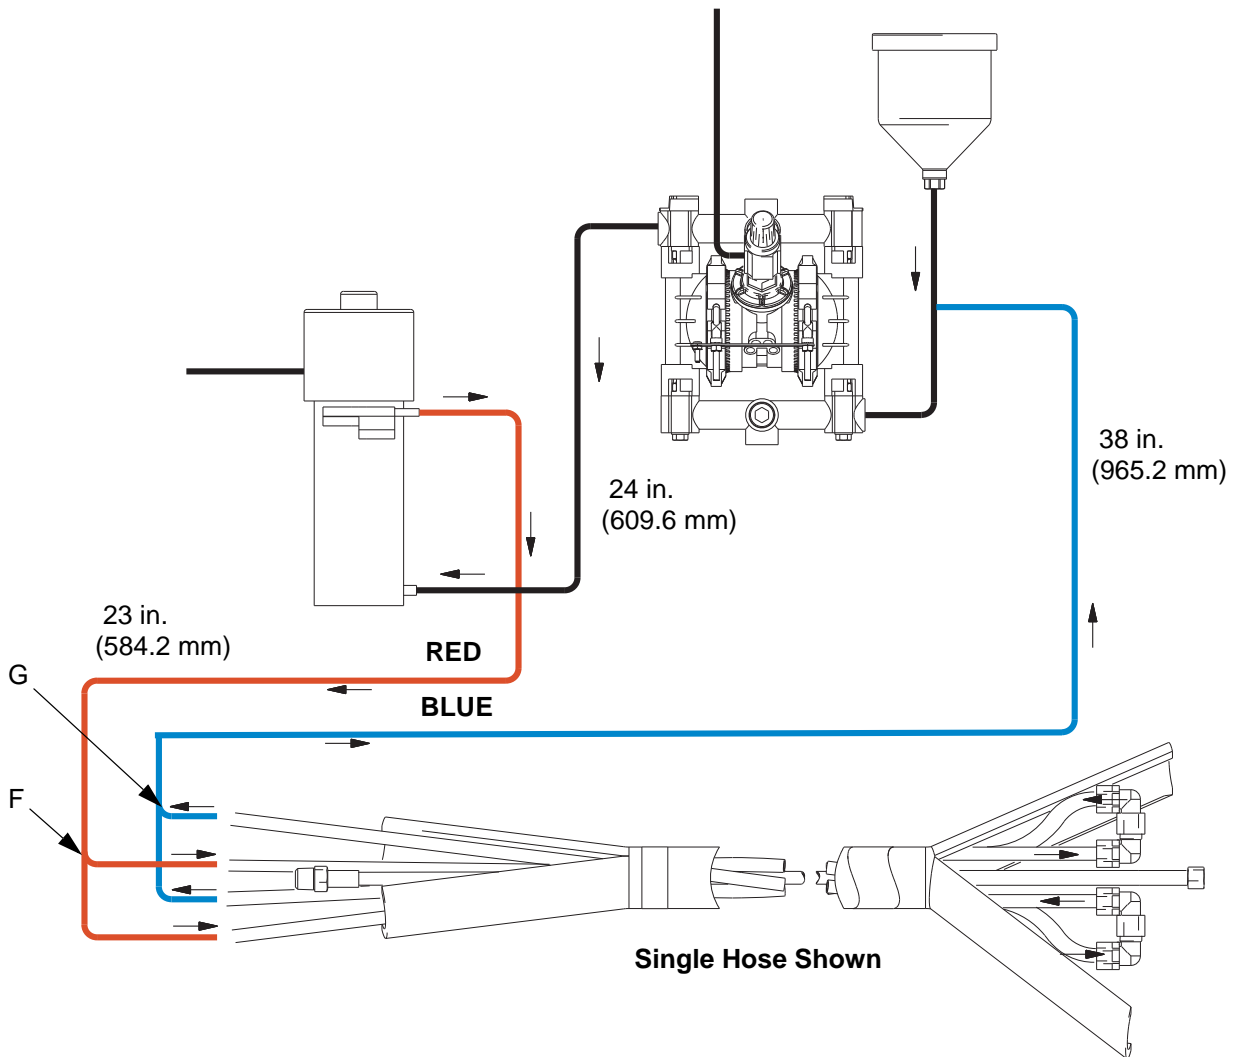

FIG. 6: Fluid schematic for heated hose
- F Heated hose tee and elbow fittings (see heated hose connections on page FIG. 5 and FIG. 6 on page 12 and 13.)
See FIG. 6 on page 13 for fluid schematic of heated fluid.
- Heating hoses only. See FIG. 6 on page 13.